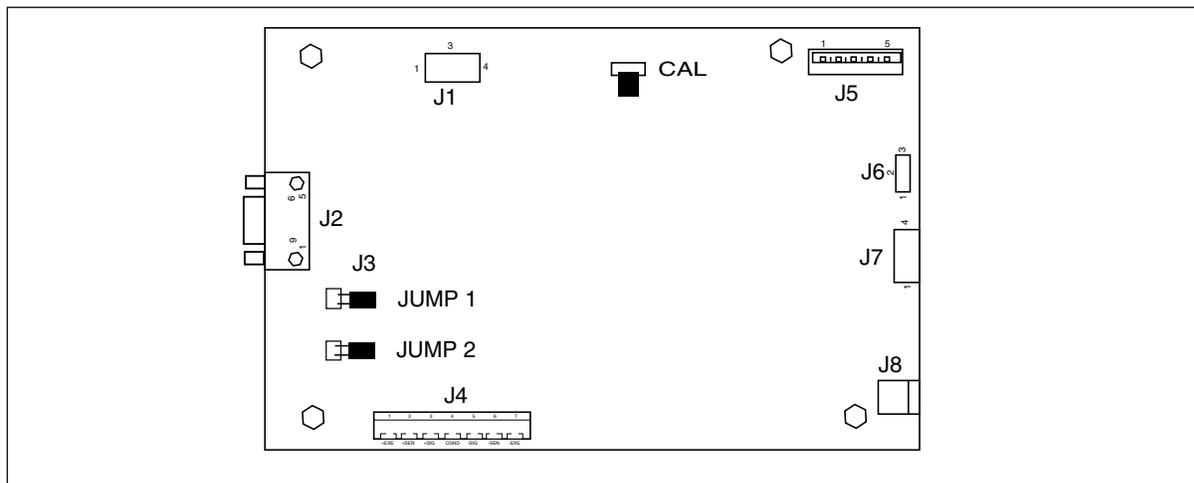

Figure 3-1. Printed Circuit Board Connector Locations.
5. Refer to the color code of the load cell cable and connect the wires to Terminal Strip J4. Tighten all screws securely. The connections are shown for a 6 wire cable. When a 4 wire cable is used, the Jump 1 and Jump 2 jumpers on the PC board must be positioned as shown in Figure 3-1.